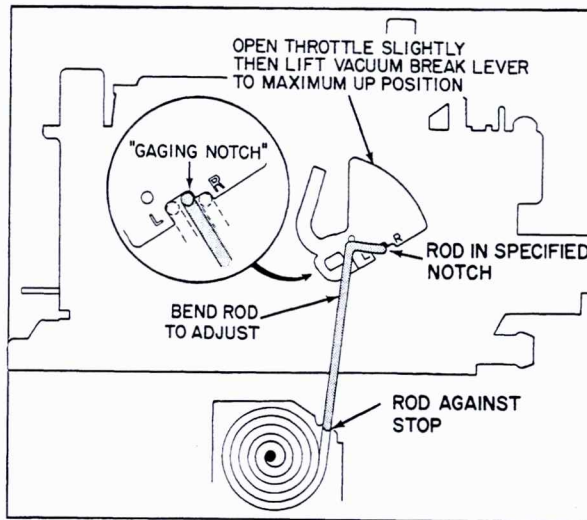

Fig. 6-87 Choke Coil Rod Adjustment
90. Choke-Coil Rod Adjustment (On Car) (Fig. 6-87)
3. With choke valve completely closed, fast idle cam in cold start position and vacuum break lever in maximum upward position, pull choke coil rod upward to end of travel against stop in choke coil housing. Upper end of rod should be positioned in gaging notch as shown in Fig. 6-87.